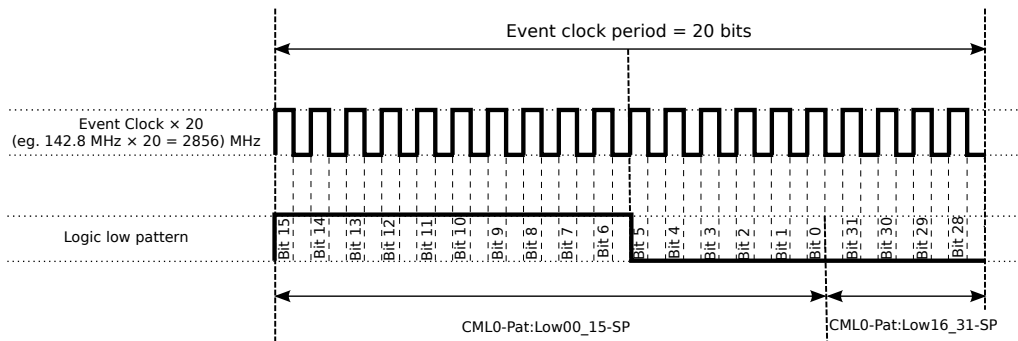

Figure 4: Generate the event clock
that not all event receiver form factors have CML outputs. The EVR-VME-230RF form factor has outputs FrontOut4 (CML0), FrontOut5 (CML1) and FrontOut6 (CML2) capable of CML output. This tutorial demonstrates how to configure CML0 output (corresponds to FrontOut4 output) to generate a clock signal, that has the same phase and frequency as the event clock. To achieve this, the FrontOut4 output source is set to `logic low` and the CML outputs are enabled. This causes the logic low pattern of the CML pulse mode to be continuously outputted. The configurable pattern, as seen in Figure 4, is 20 bits long and is sent out with a bit rate of 20 times the event clock rate. It is configured to replicate the event clock phase and frequency.
- CML0-Pat:Low00_15-SP=0xFFC0: Set logic low pattern bits 0-15. The Figure 4 shows that the bits 15-0 must be set as follows: 1111 1111 1100 0000, which translates to 0xFFC0. Each bit represents 1/20 of the event clock period.
- `CML0-Pat:Low16_31-SP=0`: Set signal low pattern bits 16-31, as seen in Figure 4. Note, that only bits 31-28 (top 4 bits) can be used.